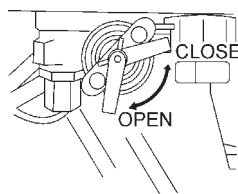

**Figure 7. Handle Adjustment**
1. Loosen the butterfly screw (Figure 7).